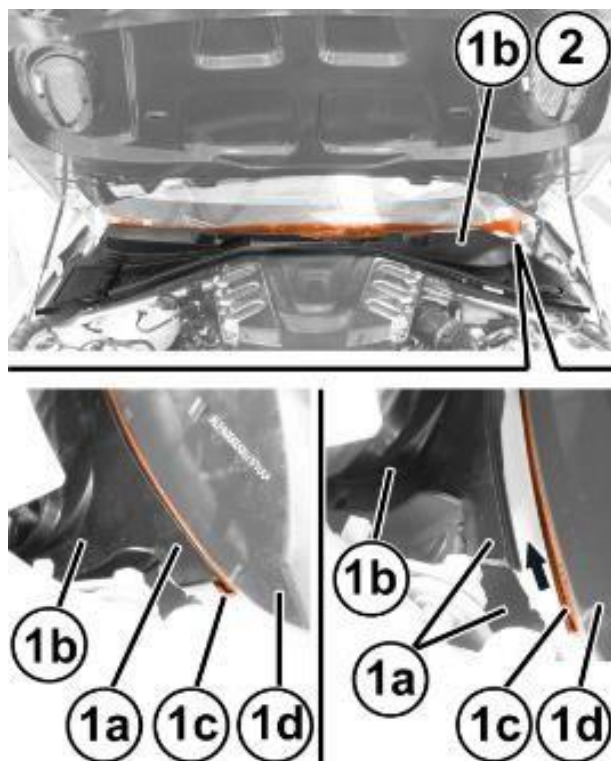

Figure 14 – Windshield Trim
26. Starting from one end (1a) gradually release the windshield base trim (1b) from the retainer profile (1c) along the windshield base (1d) (Figure 14).
CAUTION: Work carefully to avoid damaging the windshield (1d) and the profile (1c) (Figure 14).
27. Keep the windshield base trim (1b) (Figure 14).